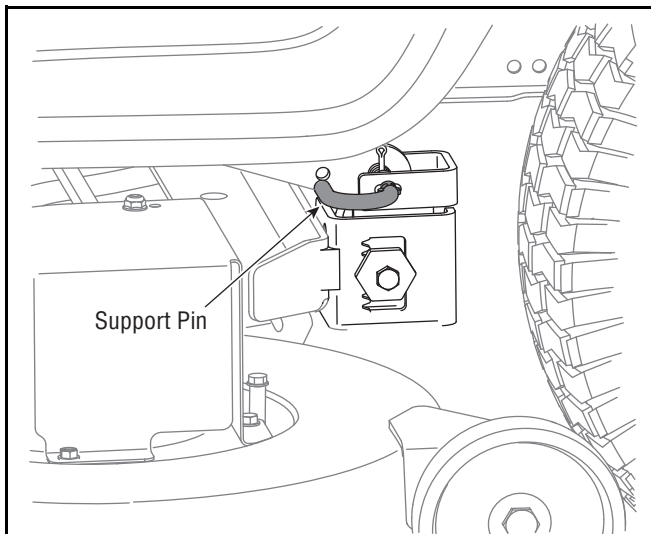

Figure 22
6. Remove the deck belt from around the tractor's engine pulley(B) and (C).
8. Pull the deck support pin outward to release the deck from the deck lift arm. See Figure 22.